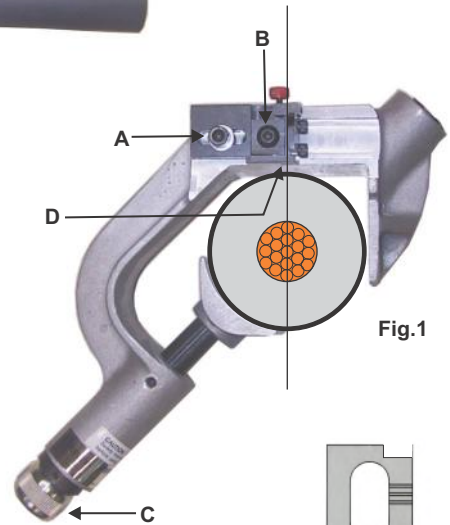

Fig.1
4. There are two adjustments for the blade positioning; "A" Blade Holder position, and "B" Blade Depth position, Fig 1.